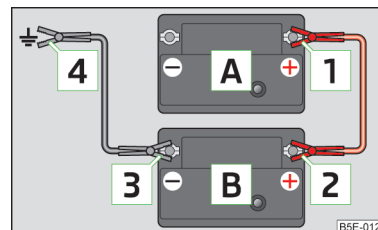

Fig. 182
- Attach clamp **1** to the positive terminal of the discharged battery **A** » Fig. 182.